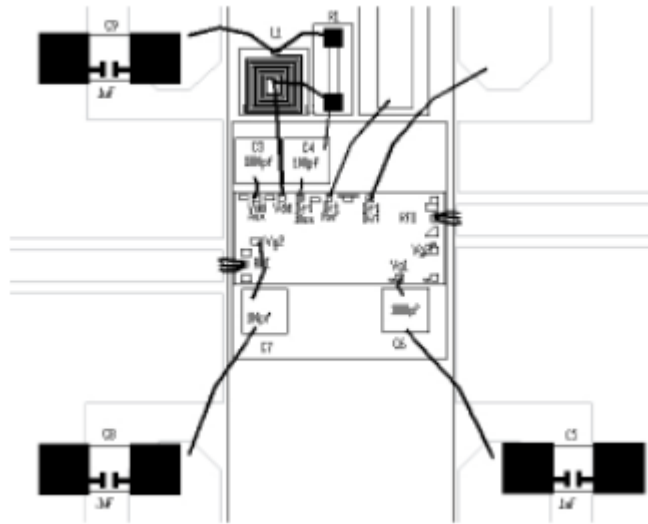
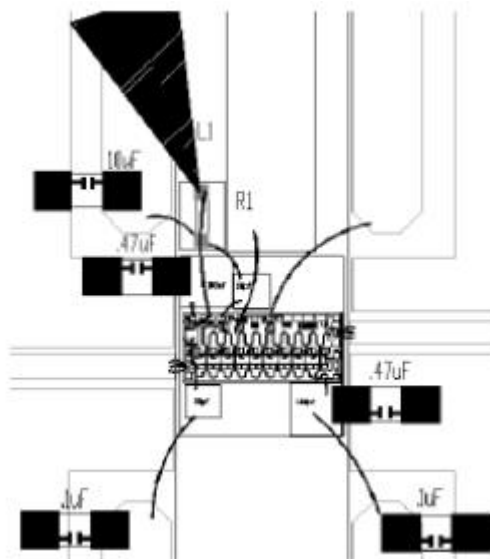
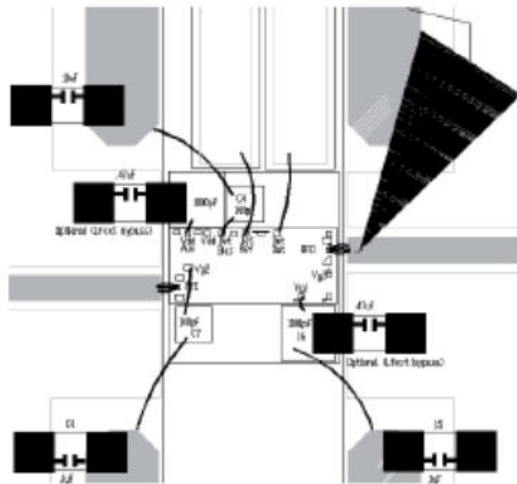

Figure 6
Figure 7
Figure 8
- 3) Increasing the inductance of the drain inductor (L1, Figure 6) to provide high impedance bias feed at the lower frequencies.
capacitors, as shown in Figure 6. When the additional bypass capacitors are connected, the low frequency limit is extended down to the corner frequency determined by the bypass capacitors, the combination of the on-chip 50Ω load, and the small de-queuing resistor. At this low-end band edge, the small signal gain will increase in magnitude and stay at this elevated level down to the point where the CAUX bypass capacitor acts as an open circuit, effectively rolling off the gain completely. The low frequency capacitive extension limit can be approximated from the following equation:
Using this equation, CDC can be calculated for different desired corner frequencies. The equation is an approximation because it does not take into account other factors, such as transmission line impedances and TWA termination networks. In a typical assembly, the bypass capacitors are usually mono-block capacitors on the order of 0.01 or 0.47 μF , depending on the desired low frequency operating point. Keep in mind that these mono-blocks have series parasitic inductance. Since the RF DC blocking capacitors are the most sensitive, in this respect, we show a few recommended broadband DC blocks in Table 1. Figure 6, illustrates a 2 GHz to 50 GHz laminate PCB assembly. L1 is a chip inductor, and R1 is the de-queuing alumina chip resistor. Figure 7, illustrates a 10 MHz to 50 GHz laminate PCB assembly. L1 is a Piconics broadband inductor. This inductor has an iron filling that negates the parallel resistor for de-queuing. R1 is used simply as a means of launching the inductor and providing bias to the on-chip detector. As discussed previously, as the DC bias is on the same electrical path as the RF path, it is possible to bias the TWA through the RF transmission line. Figure 7 illustrates this alternative method. The 2 GHz to 40 GHz RF performance, using a 7 turn Micrometrics chip inductor, are illustrated in Figure 8. All module losses are included in this data.